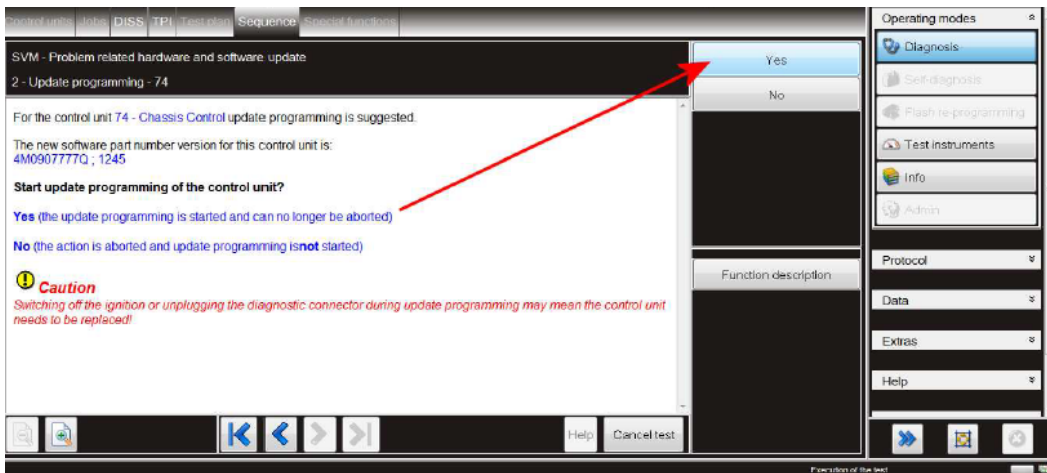

Figure 5
- Referring to Figure 5 – Select Yes and follow all remaining on screen prompts to update 74 -Chassis Control